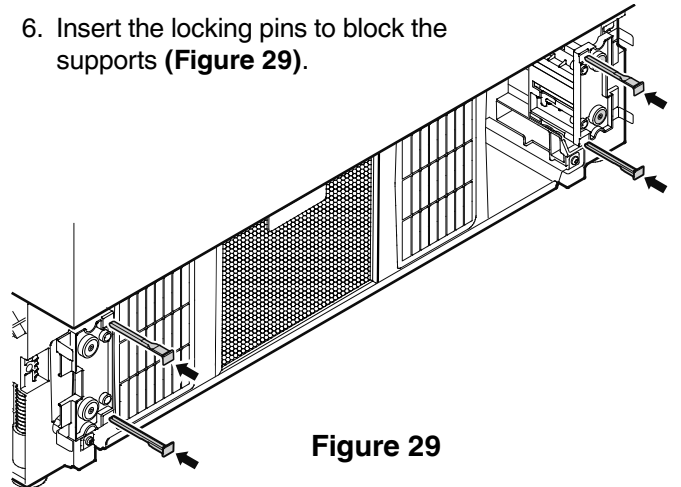

Figure 29
6. Insert the locking pins to block the supports (**Figure 29**).